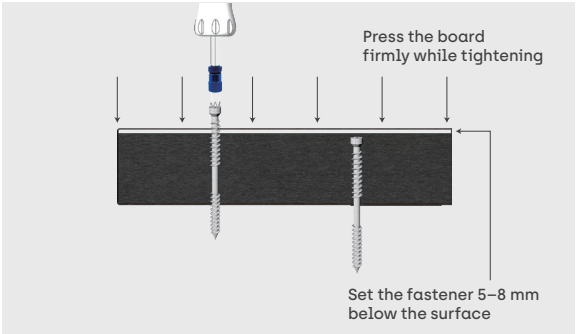

Figure 4-3
3. The elastomer surface layer of SKINGRAIN decking is capable of self-recovery after dedicated screws are driven to the appropriate depth. The screw head must be controlled to sit 5–8 mm below the board surface to conceal the screws heads. A screw depth positioner may be used to ensure accurate depth control. During installation, firmly press the board down to prevent the screw from spinning on the surface, which could damage the surface. As shown in Figure 4-3.